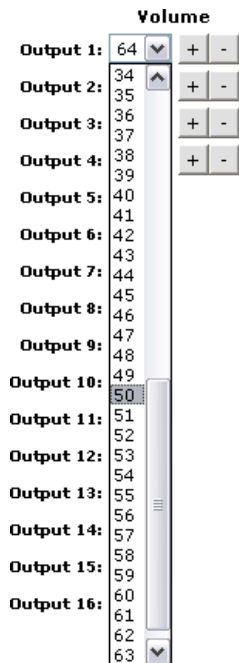

Figure 6-16 — Volume drop box
1. Click the desired output's Volume drop box. A drop-down scroll box appears (figure 6-16).